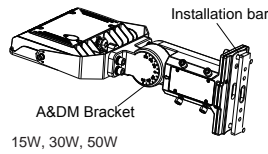

Figure 41
Step 1: Change the rubber plug on the Installation bar to the A&DM bracket(Figure 41);